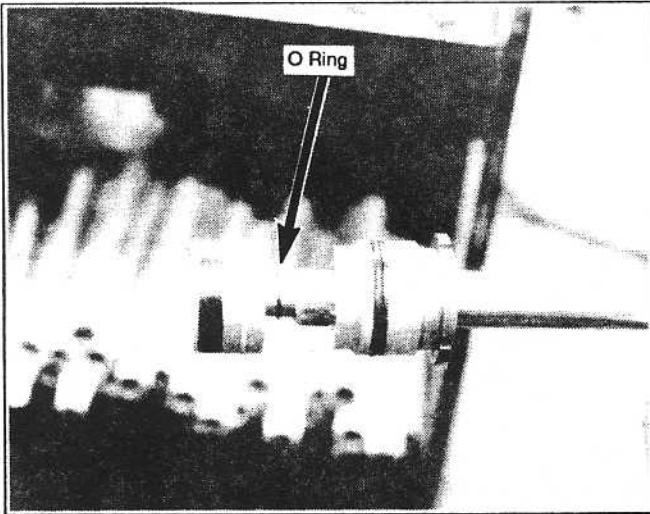

Figure 4-6
6. Apply lubricant and assemble the piston to the cylinder rod. BE CAREFUL not to damage the seals. (See figure 4-6)